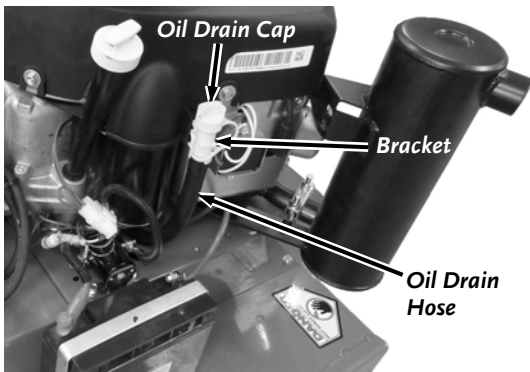

Figure 25
1. Turn the Oil Drain Cap a quarter turn counterclockwise and open the end of the Drain Hose Assembly (**Figure 25**).